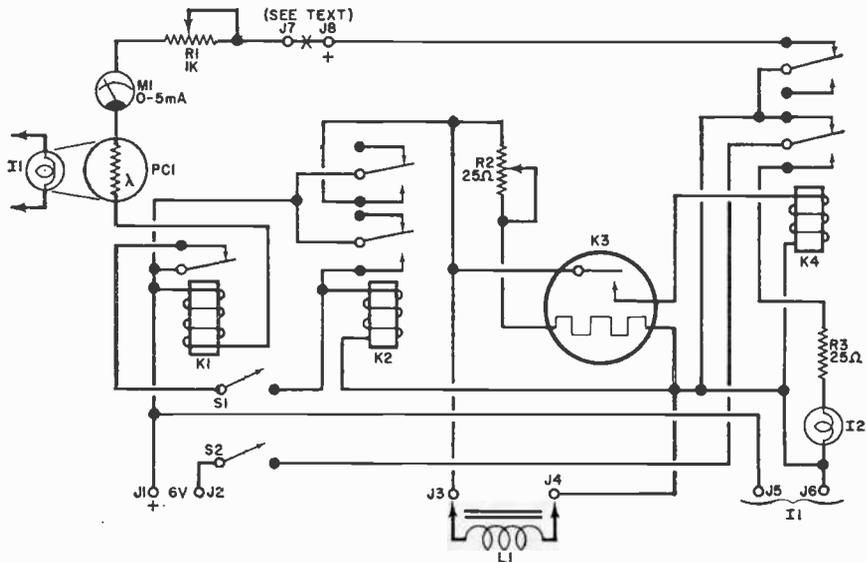

Fig. 1. Once system is tripped, relay operation is in numerical sequence. As K2 closes, it pulses shutter solenoid; K2 provides the power-disconnect feature.
Fig. 1. The probe is a simple two-transistor lamp driver arrangement. With no signal applied, the lamp is lit. When a positive voltage is applied, to the tip, the lamp goes out.
**Probe.** The electronic part of the probe (Fig. 1) is assembled to fit inside a plastic tube whose inside diameter is just large enough to hold the pilot lamp, *I1*. The author used the empty plastic case of a large cheap felt-tip marking pen.
**How It Works.** Power is applied to the Electronic Shutter Control circuit through *J1* and *J2* in Fig. 1. With both *S1* and *S2* closed, the beam from control light *I1* is directed at *PC1*, causing the resistance of the photocell to reduce enough to allow *K1* to be energized. When *K1* picks up, its normally closed contacts open, depriving *K2* and subsequent circuits of power.